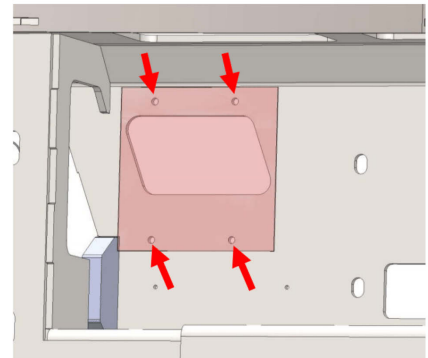

Figure 14.
14. Take the plastic sheet (61784) and hold it in the bumper mark drilling holes for mounting. Make sure to completely cover the sensor hole opening with the plastic sheet before making the drilling locations. Figure 14.